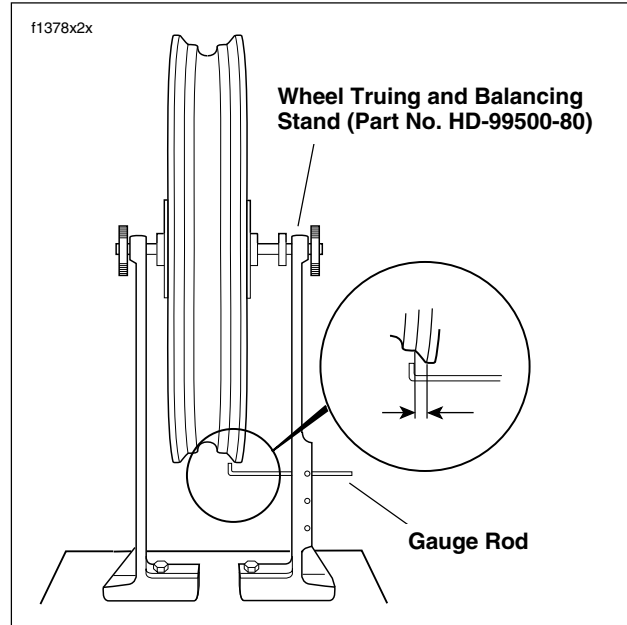

Figure 2-10. Checking Cast Rim Lateral Runout
1. See Figure 2-10. Install truing arbor in wheel hub and place wheel in WHEEL TRUING AND BALANCING STAND (Part No. HD-99500-80).